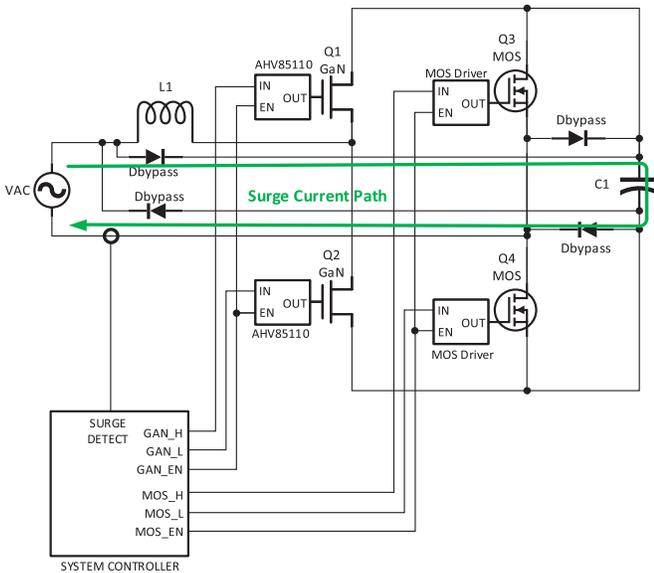

Figure 7: Block diagram of system level surge-detection inhibit signal used to disable isolated gate drivers using the EN pins
An example of the use of this surge-detection-inhibit architecture is shown in figure 7, for a Totem-Pole PFC power stage. When the surge event is detected, the system controller inhibits the PWM gate drive signal to both GaN and MOS legs, and also pulls down the open-drain Enable (EN) lines to all drivers. This ensures a robust response to the surge event.